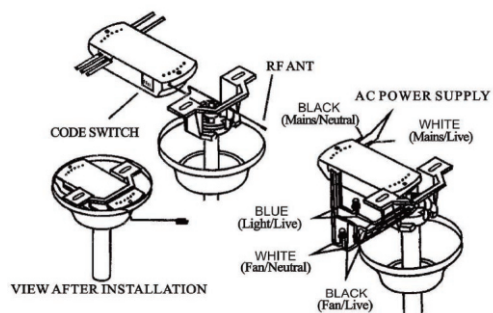

Fig. 1.2
4. Once the connection has been made, the receiver inserts into the drop rod hanging bracket. The canopy comes up to cover the receiver and bracket. (Fig. 1.2)